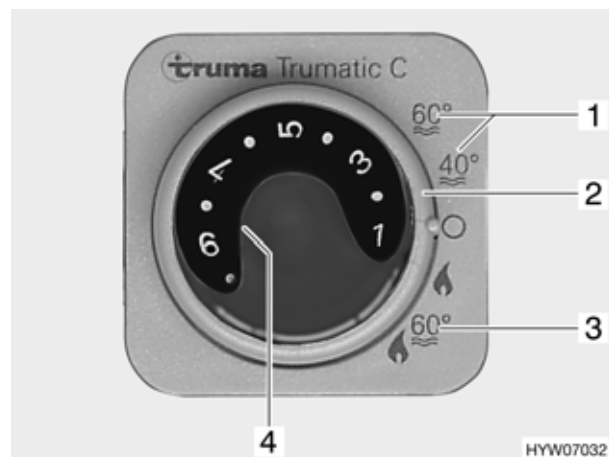

Fig. 122 Operating unit for heater/boiler
The boiler is integrated in the heater system and operates on gas. It is switched on by turning the rotary switch (Fig. 122,2) on the operating unit (Fig. 122).
In winter operation "Heater and boiler" (Fig. 122,3) the water is automatically heated up when the heater is switched on. If the heater switches off after the required room temperature has been reached the boiler will continue to heat up until the set water temperature has been reached.
In summer operation (Fig. 122,1) only the water in the boiler is heated up to either 40 °C or 60 °C. It takes approx. 1 hour to heat the water to 60 °C. The yellow indicator lamp (Fig. 122,4) comes on during the boiler heating-up period.
- Set the rotary switch (Fig. 122,2) on the operating unit (Fig. 122) to "Summer operation" (Fig. 122,1).
The yellow indicator lamp (Fig. 122,4) is illuminated during the heating up period. When the set water temperature is reached, the period of heating up is finished and the yellow indicator lamp fades.
- Set the rotary switch (Fig. 122,2) on the operating unit (Fig. 122) to "OFF".